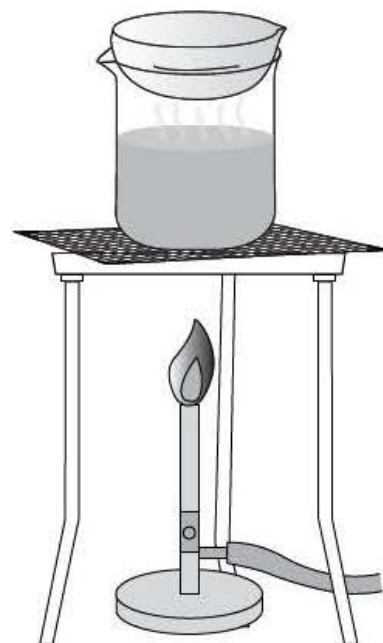

Figure 3
- (d) Place the evaporating basin on top of this beaker as shown in Figure 3, light the Bunsen burner and evaporate the filtrate slowly until there is only a small amount of solution left.